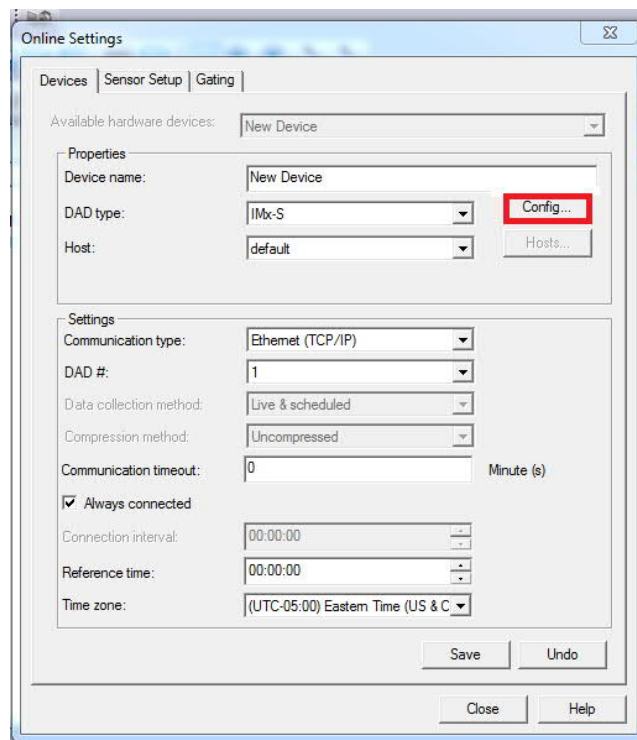

Figure 2. Online Settings dialog
2. Select the IMx to configure for Modbus communications, then click the Config... button. [Figure 2]